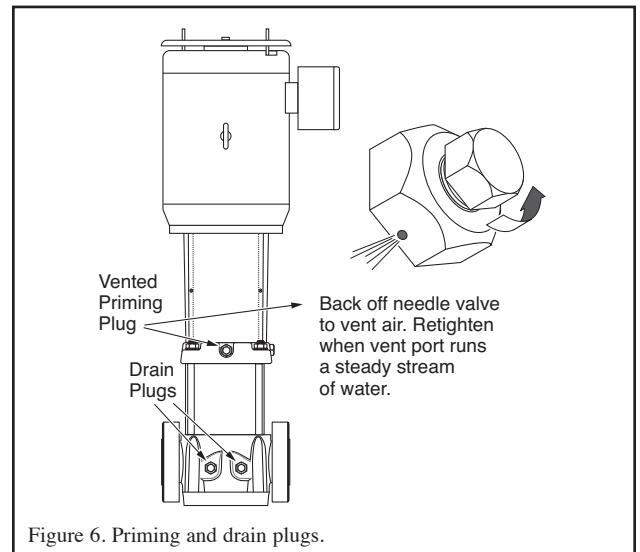

Figure 6. Priming and drain plugs.
1. Close the discharge isolating valve and loosen the needle valve located in the assembly in the pump head (Figure 6). Do not remove the needle valve.